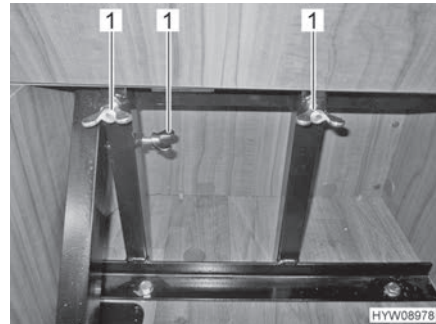

Fig. 14 Secure the attachable seat with wing nuts
- Secure the attachable seat with wing nuts (Fig. 14,1).